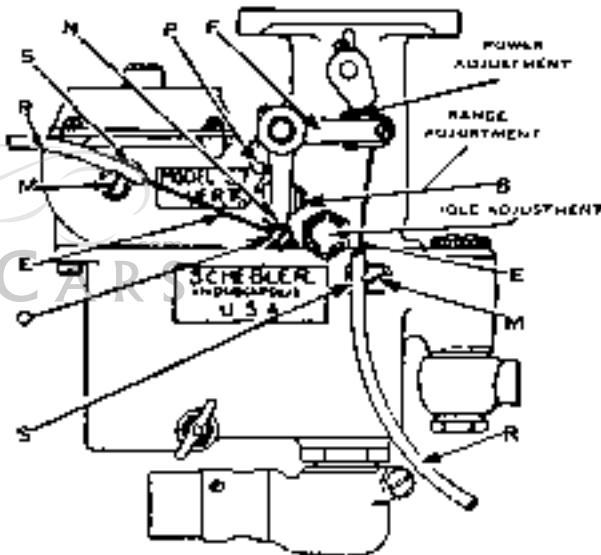

Fig. 7
Control Hook-up. When using the loose lever (N, Fig. 7) the control tubing (R) is fastened in clamp (S) with screw (M) on side of body just below the air funnel. Fasten the control wire (E) in the binding post (O) on loose lever (N) with the throttle closed, allowing 1/16" play between the loose lever (N) and the boss it strikes against on lever (P).
Idle Adjustment. Turn the idle adjusting knurl (Fig. 7) to the right for a lean mixture, and to the left for a rich mixture. To check the idle adjustment, warm up the motor thoroughly and by this we mean to have a hot motor. Then close the throttle, retard the spark all the way if car has manual spark control and then adjust idle stop screw so that motor will not idle less than five miles per hour on the road. After you have the